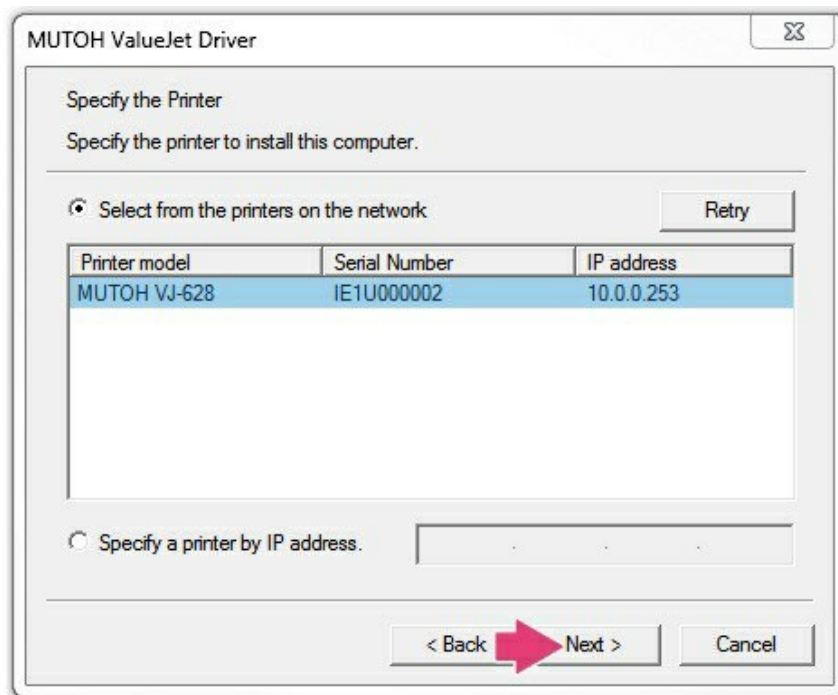

Figure 32
19. You will see the chosen printer highlighted. Select **Next**. See Figure 32.